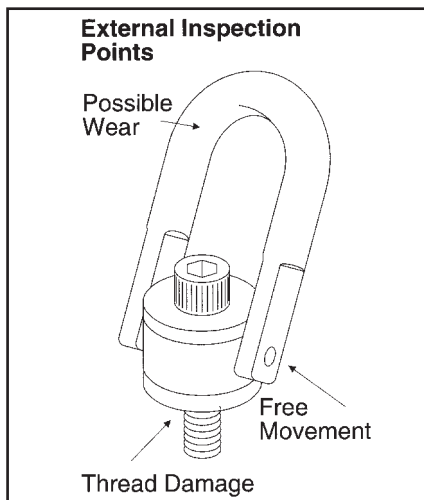

Figure 3
- Regularly inspect hoist ring parts. (Fig. 3)